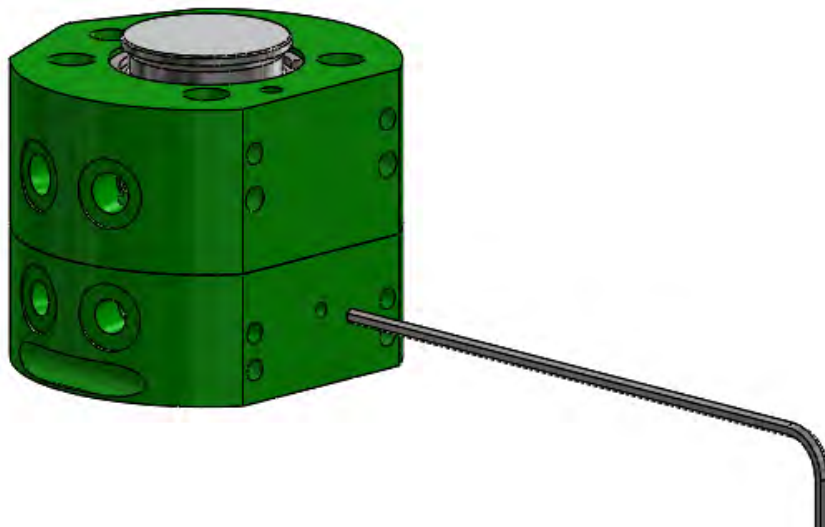

Figure 7.4-1. Manual Uncouple Feature
4. Insert a 1.5mm allen wrench (alternatively, a 1.5mm punch may be used) as shown in Figure 7.4-1. This requires any tool side modules to be removed.